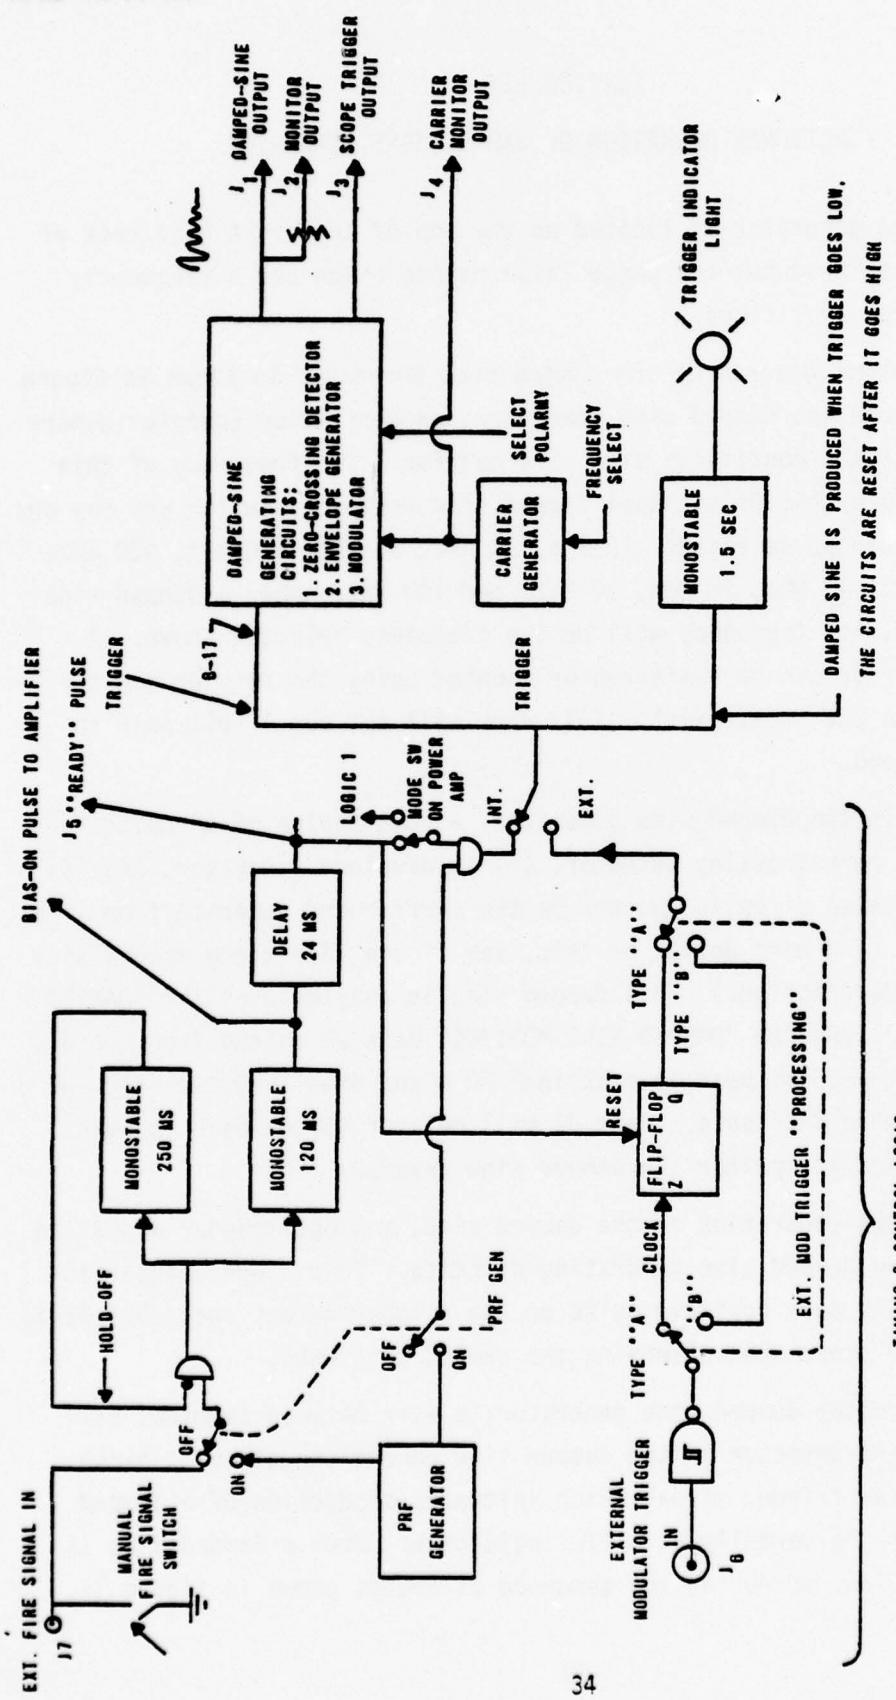
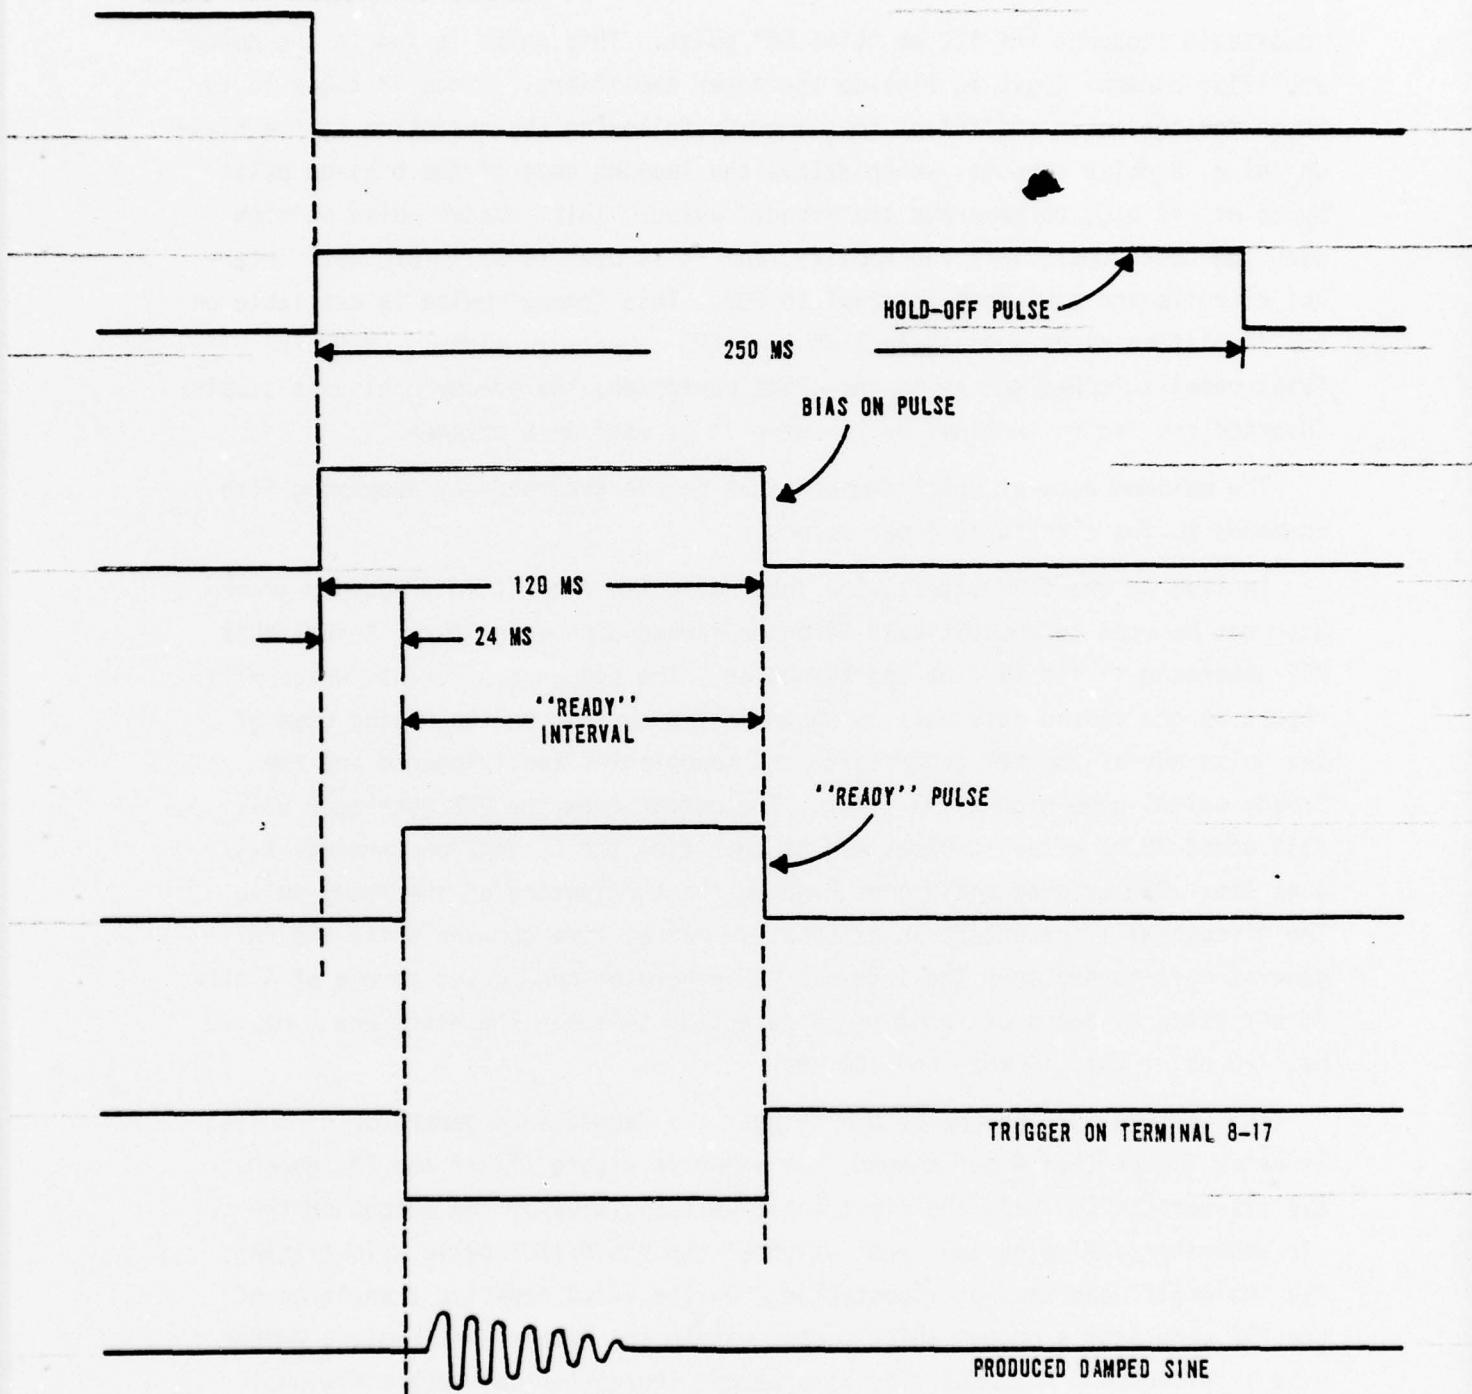

Figure 13. Damped Sine Generator Functional Diagram
Figure 15. Damped Sine Generator Control Timing Signals, Manual Fire Mode
A functional block diagram of the damped sine generator is shown in figure 13. There is, within the damped sine generator, an oscillator (carrier generator) which generates a continuous sine wave carrier. The frequency of this carrier is selected by the front panel damped sine frequency switch and any one of 12 frequencies can be selected: 10 kHz, 20 kHz, 50 kHz, 100 kHz, 800 kHz, 1 MHz, 2 MHz, 4 MHz, 10 MHz, 30 MHz, 50 MHz, and 100 MHz. When a damped sine pulse is generated, its frequency will be the frequency selected above. A sample of this carrier can be monitored or counted using the carrier-monitor output Jack (J4) on the front panel. This Jack will put out 1 volt peak to peak into a  $50 \Omega$  load.
There is, within the damped sine generator, a combination of circuits consisting of: (1) a zero-crossing detector, (2) an envelope generator, and (3) a modulator. These three circuits operate on the carrier and generate from it a damped sine wave. (For more detail of this, see figure 13 and the damped sine generator circuit description.) This damped sine is available at the "DAMPED SINE OUTPUT" Jack J1 and the "DAMPED SINE MONITOR" Jack J2 on the front panel. Jack J1 will deliver 750 mV peak to peak into  $50 \Omega$  and usually drives the PUP preamplifier through a BNC cable. Jack J2 will deliver 100 mV peak to peak into  $50 \Omega$  and is used to monitor the damped sine waveform.
If the PRF generator is off, and the "MODULATOR TRIGGER" switch is in the "INT" position, the control logic will respond to a fire command as shown in figure 15. The fire command may be the pushing of the manual fire switch or a TTL logic zero applied to the external fire signal in Jack J7. The fire signal triggers two monostable circuits (figures 13 and 15). The first produces the 250 ms hold-off pulse. This is used to inhibit any additional fire signals which might occur within 250 ms of the accepted fire signal. The second